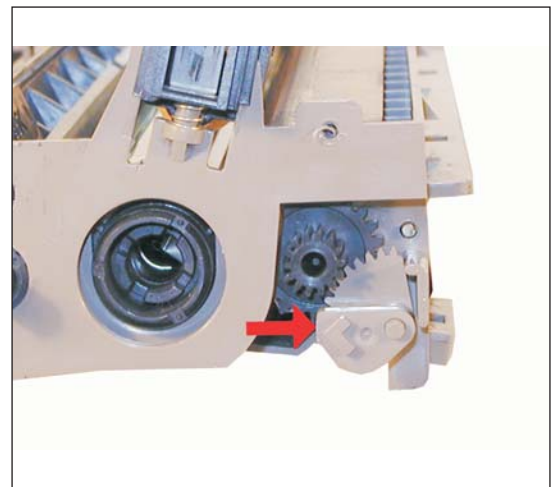

Figure 50
37) The reset gear must now be set. This gear and flag combination tells the machine that a new cartridge has been installed. The machine then takes readings from its sensors to measure the charge of the developer and drum. From those readings, it sets up the density for that drum unit. If they are not reset, the machine will continue to think the old cartridge is installed, and will use the old settings. This will usually cause light print or back ground-ing. Set the gear as shown in Figure 50